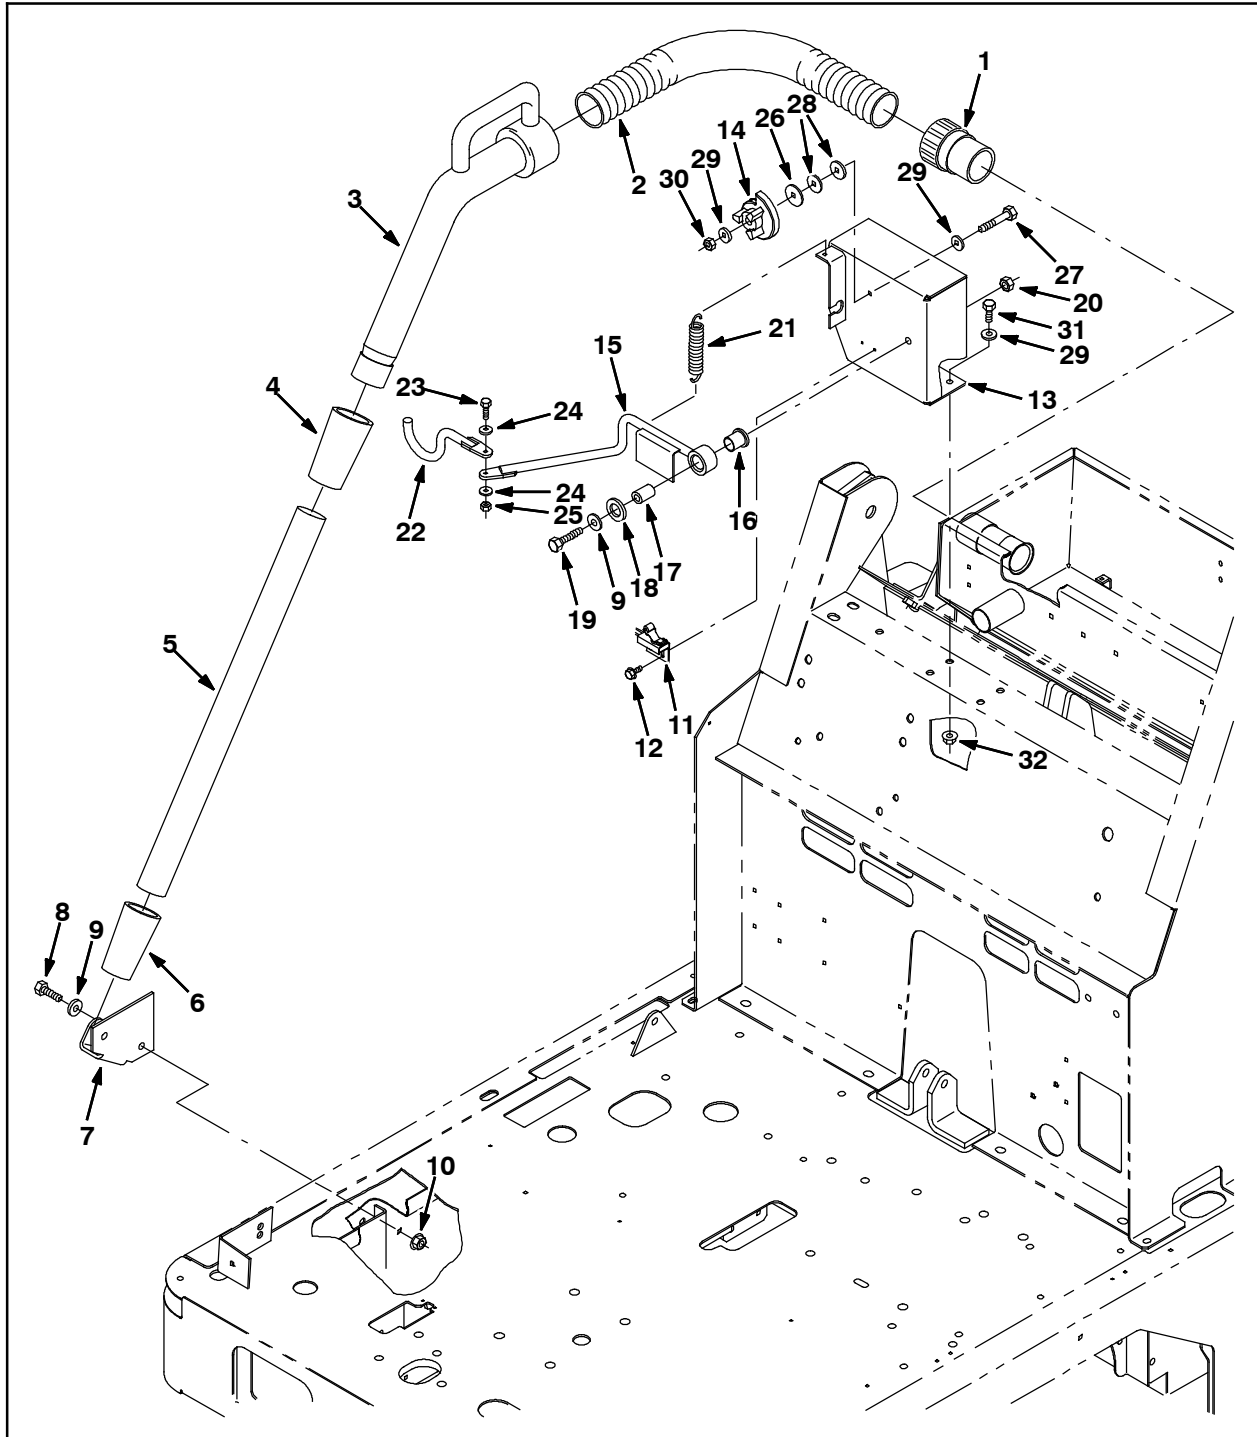
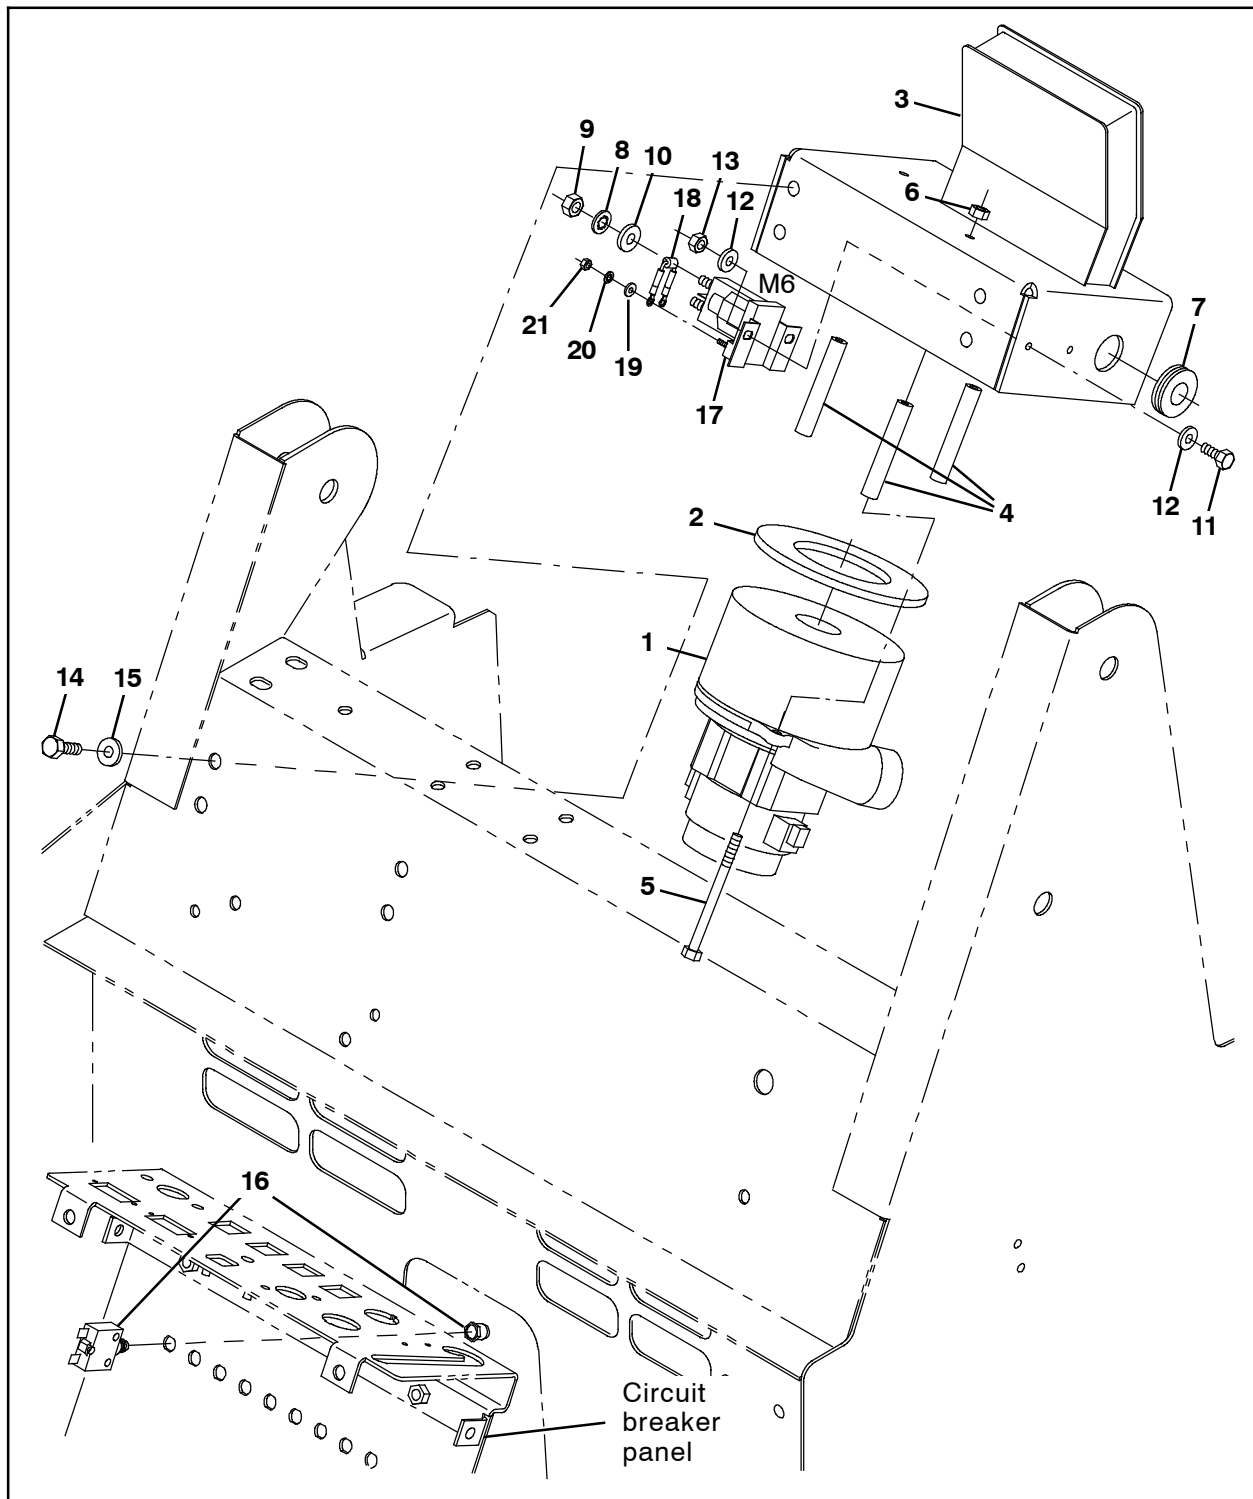
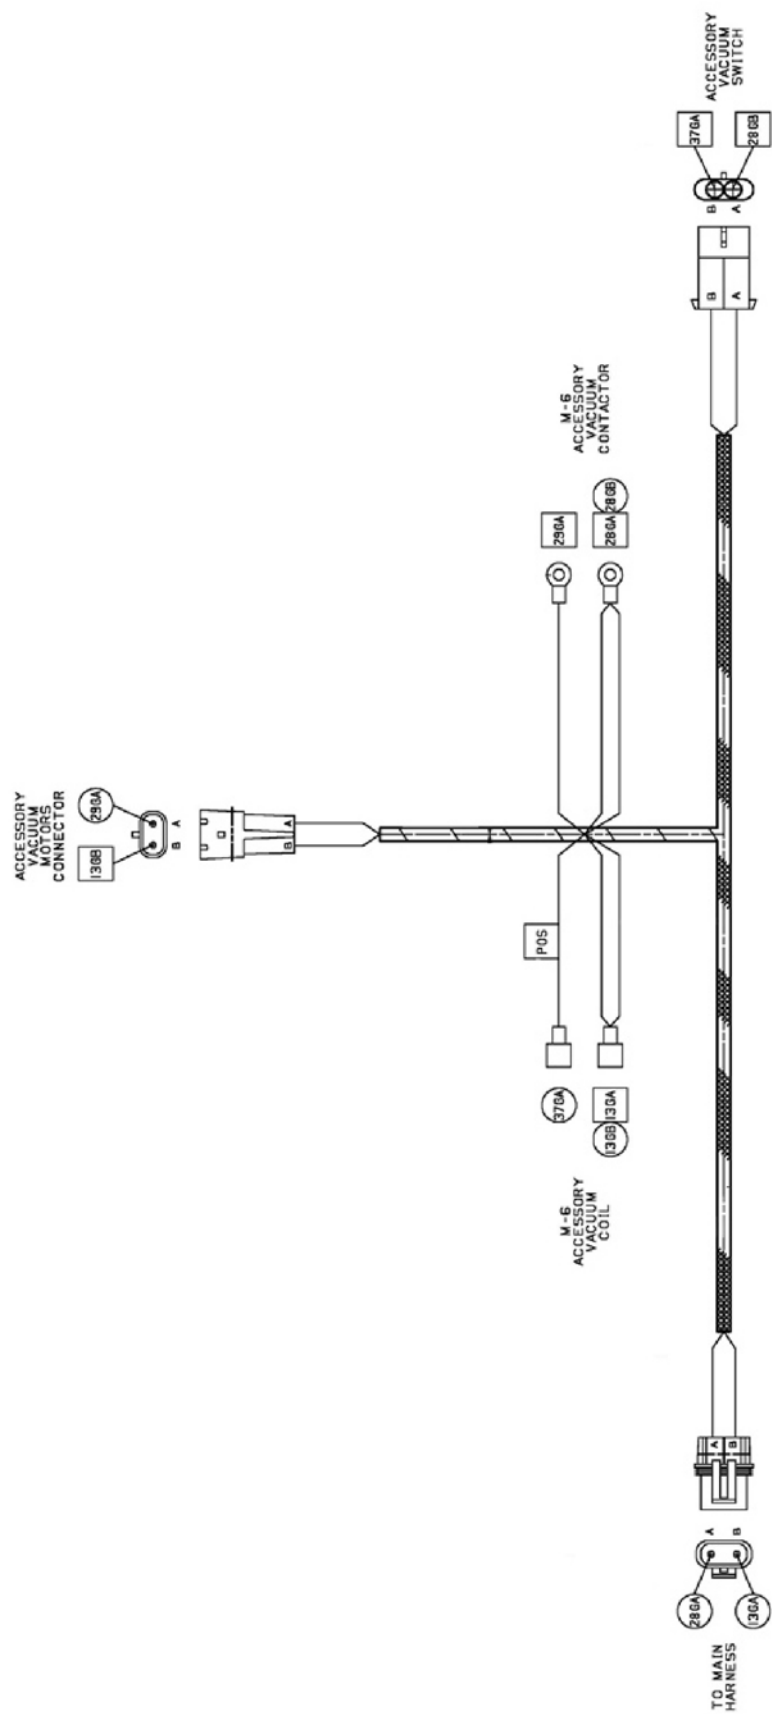
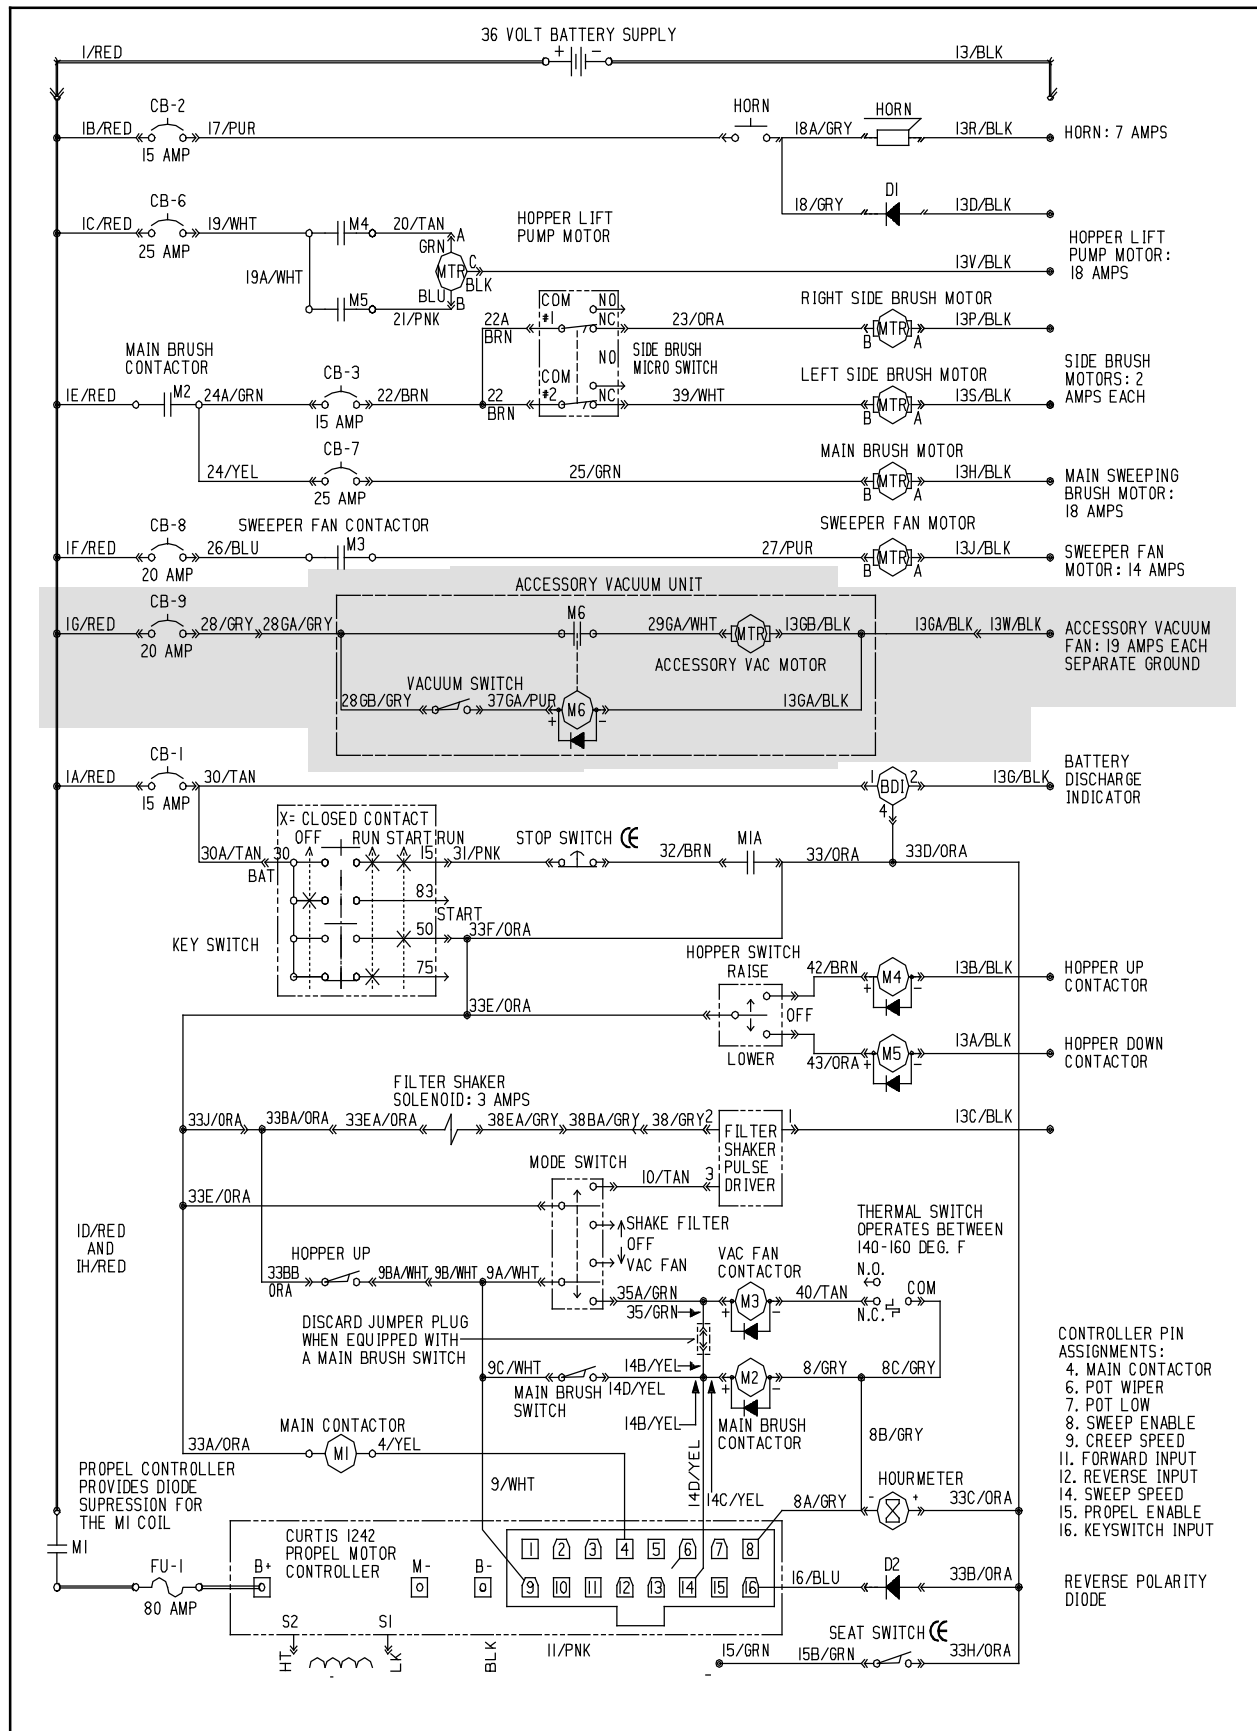

FIG. 1
FIG. 2
FIG. 4
FIG. 5
1. Use two hex screws (8), two washers (9), and two hex nuts (10) to install the vacuum wand bracket (7) to the mounting holes on the lower right side of the machine. (Fig. 1)
2. Use three hex screws (31), three washers (29), and three hex nuts (32) to install the switch, arm / cam sub assembly (11-30) to the right side of the rear mounting bracket. (Fig. 1)
3. Connect the vacuum motor harness (33) to the switch assembly (11). (Fig. 1 / Fig. 4 / Fig. 5)
4. Connect the vacuum motor harness (33) to the contactor (17). (Fig. 2 / Fig. 4 / Fig. 5)
5. Connect the vacuum motor harness (33) to the vacuum fan (1). (Fig. 2 / Fig. 4 / Fig. 5)
6. Use four hex screws (14), and four flat washers (15) to install the vacuum fan sub assembly (1- 13) onto the machine. (Fig. 2)
8. Connect the vacuum motor harness (33) to the main wire harness. (Fig. 4 / Fig. 5)
9. Open the circuit breaker panel. Be careful to not break any wire / cable connections when opening the circuit breaker panel. Set hardware aside. (Fig. 2)
10. Install the 25- Amp circuit breaker (16) in the circuit breaker panel. (Fig. 2)
11. Connect the main wire harness to the 25- Amp circuit breaker (16). (Fig. 2 / Fig. 4)
12. Close the circuit breaker panel. (Fig. 2)
17. Assemble the vacuum wand assembly (1- 6). (Fig. 1)
18. Connect the vacuum wand hose cuff (1) to the vacuum box inlet tube. (Fig. 1)
19. Place the vacuum wand in the arm weldment when not in use. (Fig. 1)
20. Place the coupling (6) on the end of the tube (5) over the end of the lower bracket (7) mounted to the side of the machine when not in use. (Fig. 1)
Bill Of Materials For Wand Kit, Vacuum, 36vdc, CI [6200E] - 383887 - Fig. 1
Bill Of Materials For Wand Kit, Vacuum, 36vdc, CI [6200E] - 383887 - Fig. 2